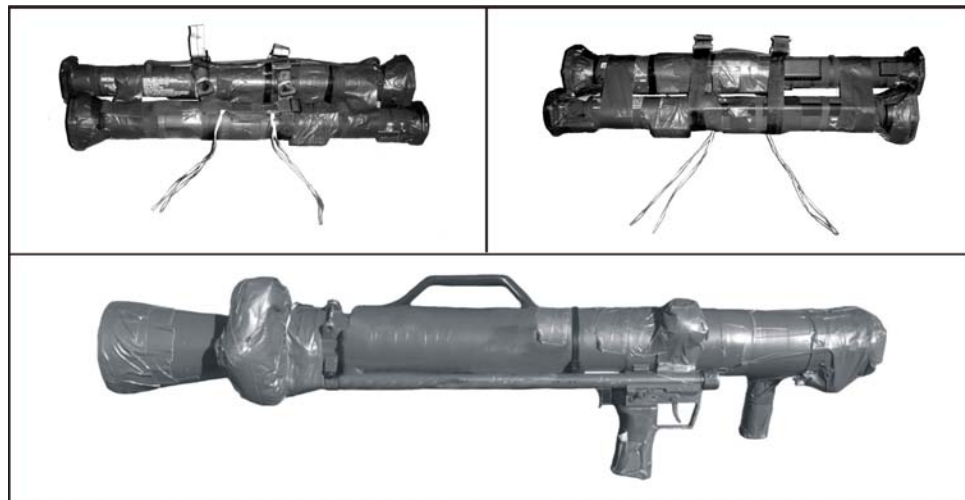

Figure 5-49. AT-4 and 84-mm Carl Gustaf Rigged for Jumping
- Tapes and pads the end of the launch tube to prevent debris from entering the tube upon landing. If the launch tube has removable end caps, he tapes and secures them to the launch tube (Figure 5-49).
- Tapes the sling securely to the launch tube (Figure 5-49).
- Pads and tapes the weapon sights and the trigger mechanism (Figure 5-49).